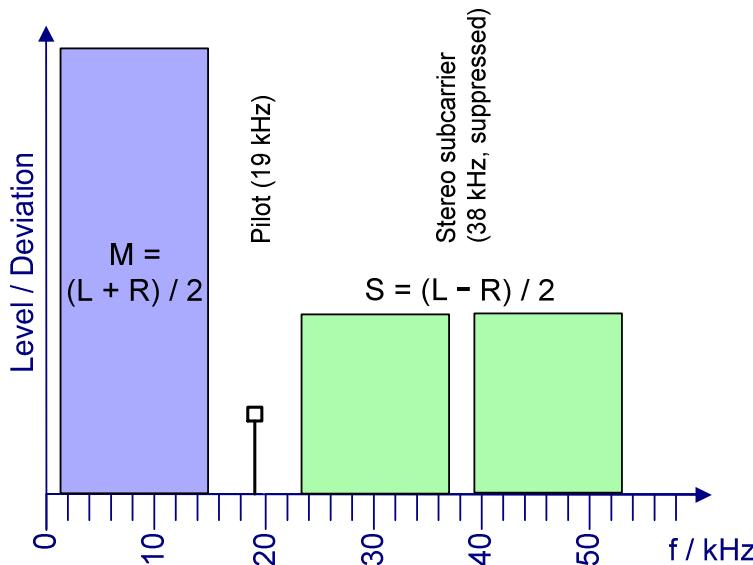

Fig. 4-56 Spectrum of the stereo MPX signal
*Pilot Frequency* Displays the frequency of the pilot signal; see Fig. 4-56 on p. 4.130. The specified value of 19 kHz can not be changed.
*Audio Mapping* Selection of the transmission channel for the audio signal; see Fig. 4-56 on p. 4.130. If the audio signal is transmitted as a mono signal, the stereo band is not occupied ( $L = R$ ). A left channel and a right channel signal generate equal mono contributions but stereo contributions with different sign. The pilot signal is transmitted irrespective of the audio mapping.